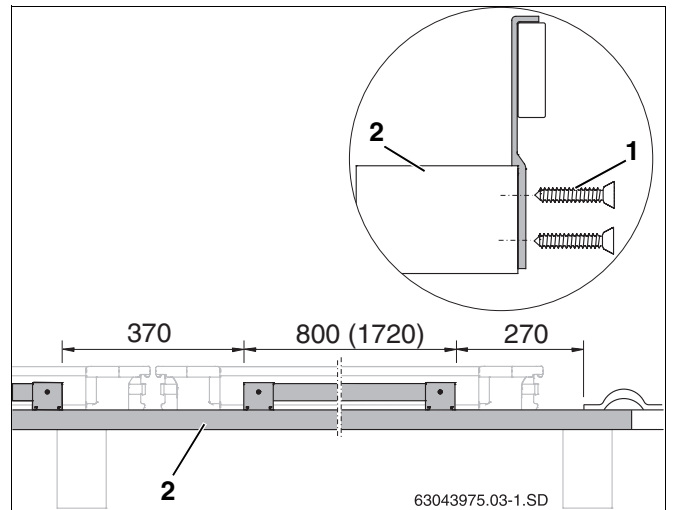

Fig. 11 Fasten anti-slip protection devices to roof batten (measurements in mm, value in brackets = horizontal version)
- ▶ Place pre-assembled anti-slip protection device to the first additional roof batten (Fig. 11, **Item 2**), and fasten using two screws 4×40 (Fig. 11, **Item 1**) (observe measurements).